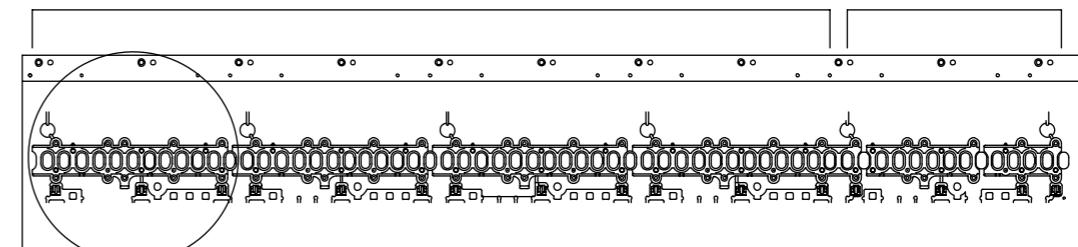

Fig.1
- 1) Turn the chassis over as shown in fig.1.Next,place 4 pieces of RUBBER SWITCH 12P in turn,on the chassis from the left end(the bass side of keyboard),aligning them with the long holes provided on the chassis.
1 Fig.1 のようにシャーシを裏返します。次に RUBBER SWITCH 12P を長穴に合わせて左側（鍵の低音部）より順に4つシャーシに配置します。